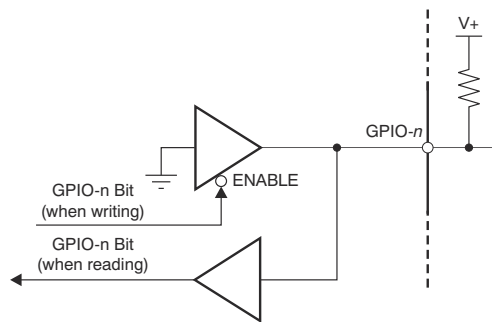

Figure 7-17. GPIO Pins
The device has eight GPIO pins. The GPIO-0, GPIO-1, GPIO-2 and GPIO-3 pins are dedicated to general, bidirectional, digital I/O signals. GPIO-4, GPIO-5, GPIO-6, and GPIO-7 are dual-function pins and can be programmed as either bidirectional digital I/O pins or remote temperature sensors D1 and D2. When D1 or D2 is disabled, the pins function as GPIOs. These pins can receive an input or produce an output. When the GPIO-*n* pin functions as an output, the pin has an open-drain and the status is determined by the corresponding GPIO-*n* bit of the GPIO register. The output state is high impedance when the GPIO-*n* bit is set to 1, and is logic low when the GPIO-*n* bit is cleared (0). A 10-k Ω pullup resistor is required when using the GPIO-*n* pin as an output; see Figure 7-17. Do not tie the dual-function pins GPIO-4, GPIO-5, GPIO-6, and GPIO-7 to a pullup voltage that exceeds the V_{DD} supply. The dedicated GPIO-0, GPIO-1, GPIO-2, and GPIO-3 pins are only restricted by the absolute maximum voltage. To use the GPIO-*n* pin as an input, the corresponding GPIO-*n* bits in the GPIO register must be set to 1. When the GPIO-*n* pin functions as an input, the digital value on the pin is acquired by reading the corresponding GPIO-*n* bit. After a power-on reset or any forced hardware or software reset, all GPIO-*n* bits are set to 1, and the GPIO-*n* pin goes to a high-impedance state.